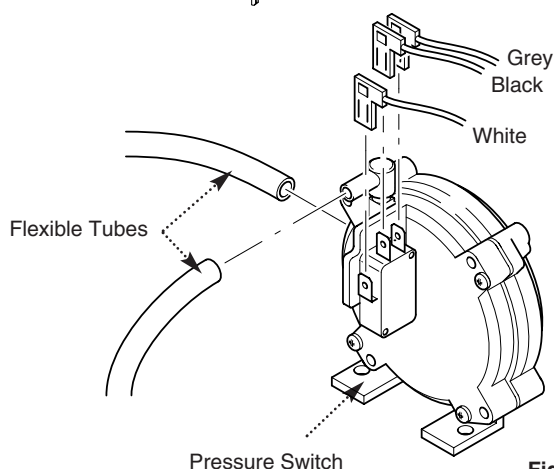

Fig. 117
11.9 Pressure Switch (Fig. 117)